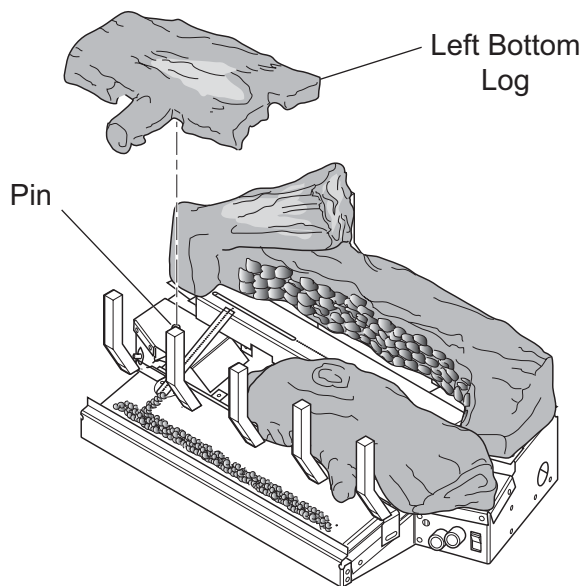

Figure 32 - Installing Left Bottom Log (#3)
3. Install left bottom log (#3) on pin located on left side of base. *See Figure 32.*
4. Rest back end of top middle log (#4) on rear log and place front end of top middle log (#4) on bottom right and left logs. *See Figure 32.*